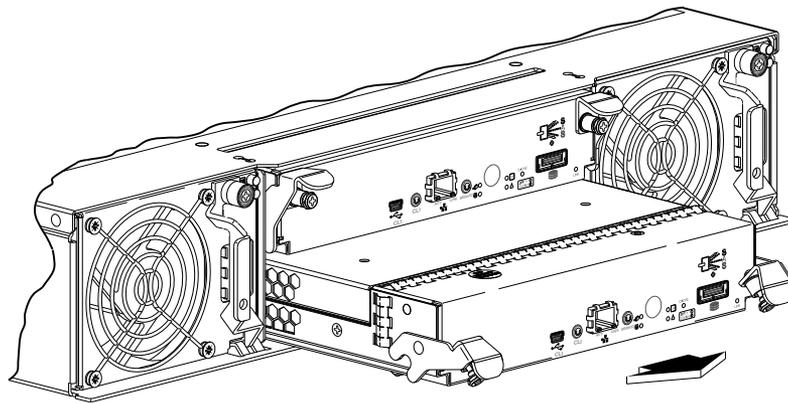

Figure 12 Removing a controller module
6. Pull the controller module straight out of the enclosure such that the controller module remains level during removal (see Figure 12).